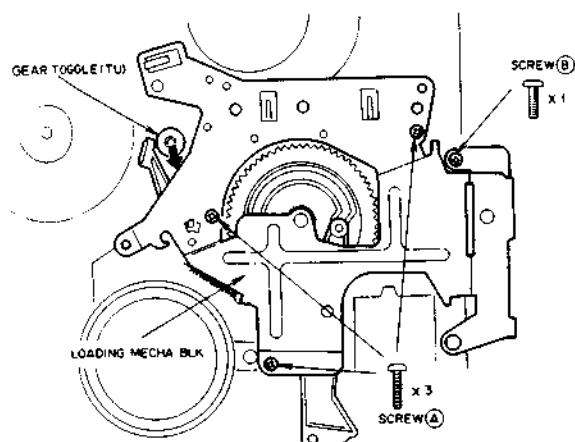

Fig. 4-13
- 9) Attach the LOADING MECHA. BLK with holding the GEAR TOGGLE (TU) in the direction of the arrow as shown in Fig. 4-13. Tighten the LOADING MECHA BLK with four screws **(A)** and **(B)**.